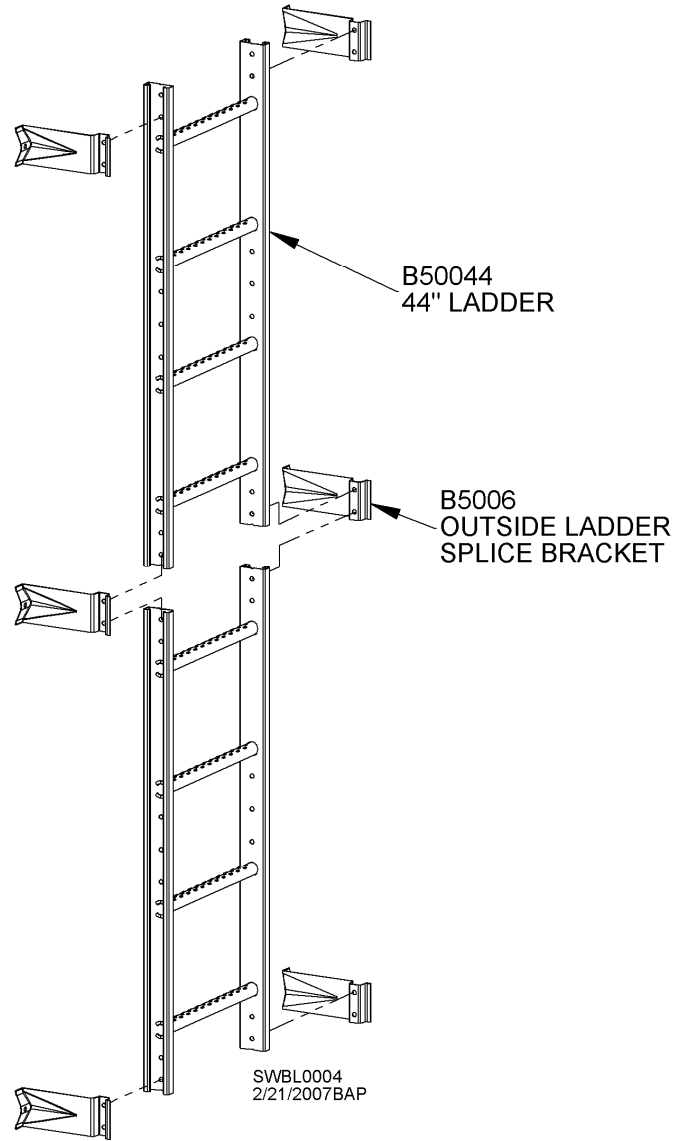

Fig. 6
13. Install door catch. See Fig. 6. Remove and use existing bolt for catch mounting, or field-drill hole into bin sidewall if an existing bolt is not in correct spot.
14. Attach doorstep below door. It may be possible to align some bolt holes with those in bin sidewall. If not, field-drill four (4) mounting holes. Use 5/16" x 1" bin bolts and 5/16" nuts to attach doorstep to bin.
Insert sidewall/splice bracket bolts from inside of bin to create a watertight seal. If outside ladder brackets are used at that same location, remove washer and place between outside bracket and sidewall. See Fig. 6.